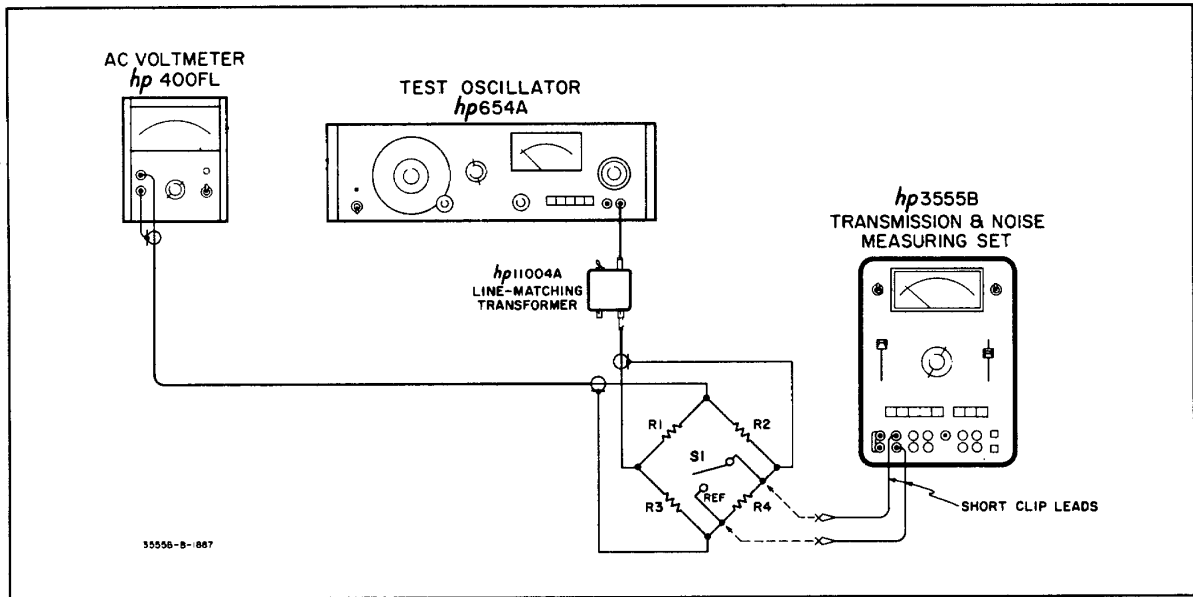

Figure 5-4. Return Loss Test Set-Up
- a. To make a return loss check it will first be necessary to construct a balanced bridge utilizing 0.1% resistors for each of the four 3555B impedances. Figure 5-4 shows the equipment test set-up to be used. For this check to be meaningful, all test leads should be kept short. The leads connecting the 3555B to the bridge should be short clip leads and should be kept away from each other and from other leads. Keep all the instruments away from other instruments that may be referenced to earth ground.
- b. Connect the equipment as shown in Figure 5-4 and set the 3555B controls as follows:
- c. Set the 654A frequency to 1kHz. Temporarily close S1 in Figure 5-4 and adjust the 654A output level for an up scale indication on the 400FL AC Voltmeter.
- e. Unplug or disconnect R4 in Figure 5-4 and connect the 3555B tip and ring in its place. Be sure to use short clip leads.
- f. Momentarily close S1 and recheck the reference on the 400FL. Open S1 in Figure 5-4 and down range the 400FL for an on-scale indication. This indication must be down at least 30dB from the reference.
- i. Change the bridge resistors in Figure 5-4 to 900 ohms f 0.1% (use 300 ohms + 0.1% in series with 600 ohms $\pm 0.1\%$) and change the 3555B FUNCTION to VF/Nm 900 BAL. Be sure to reset the reference level after the resistors are changed. Check the return loss between 50 Hz and 20 kHz. The return loss must be better than 30 dB.
- j. Change the bridge resistors in Figure 5-4 to 135 ohms +0.1% and change the 3555B FUNCTION to 135 BAL. Check the return loss between 1kHz and 600kHz. The return loss must be better than 26dB down from the reference.
- k. Change the 3555B input connection to the 75 UNBAL jack. Change the resistors in Figure 5-4 to 75 ohms +0.1% and change the 3555B FUNCTION to CARRIER 75 UNBAL.